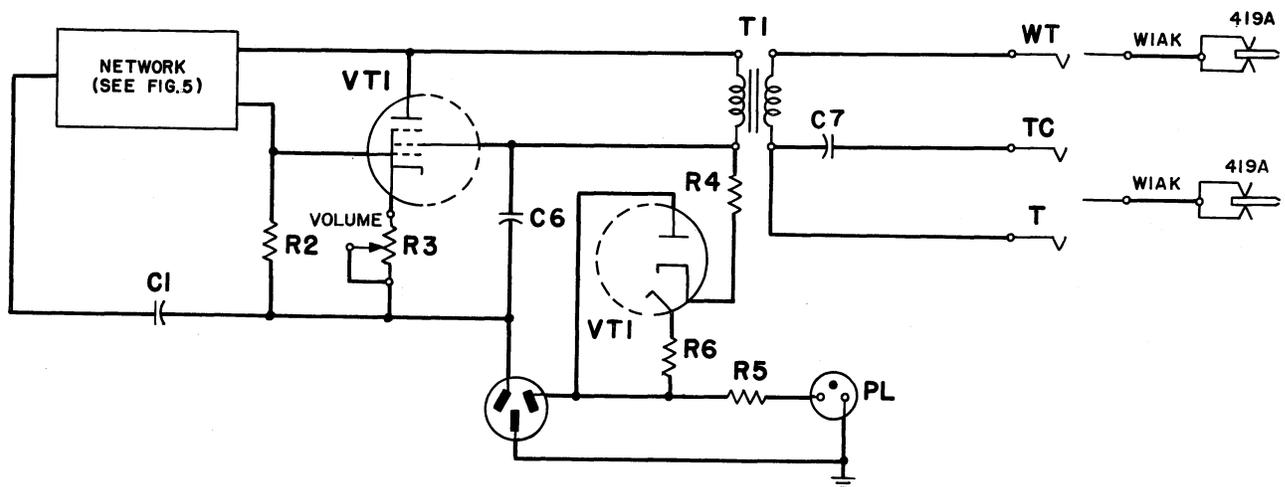
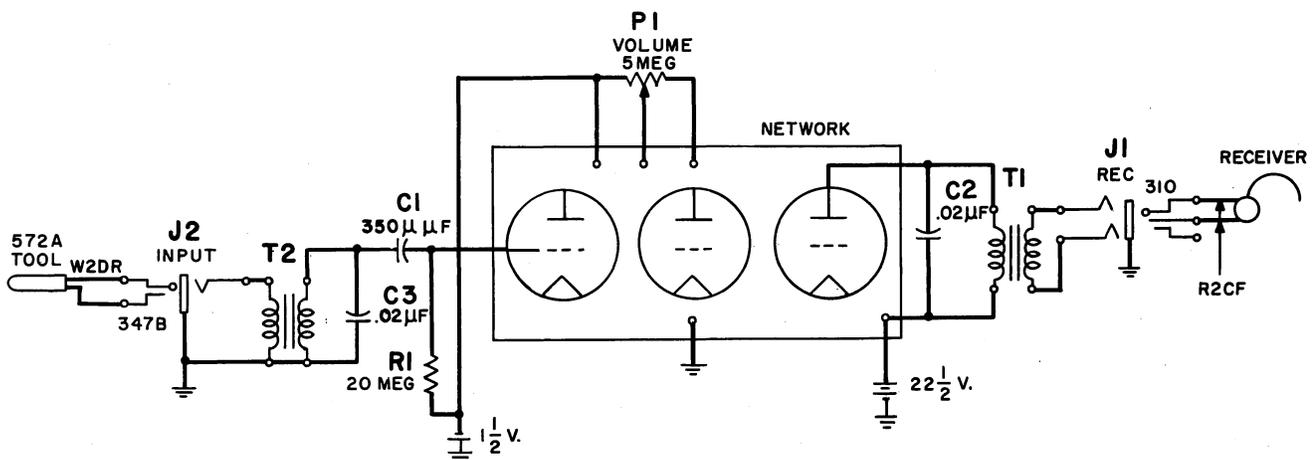

Fig. 7 - Oscillator Circuit Arranged for Locating Crosses
Fig. 8 – 147-Type Amplifier Circuit
3.09 Fig. 7 shows in simplified form the arrangement of the oscillator for locating a cross between leads or to ground or battery.
3.11 Fig. 8 shows in simplified form the arrangement of the 147-type amplifier with the receiver connected to the REC jack and the 572A tool connected to the INPUT jack. With the 572A tool held near one of the crossed wires, the 500-cycle tone can be heard in the receiver and may be adjusted by means of the VOL potentiometer. The tone can be followed along the lead and should disappear when the tool passes beyond the cross. By inspecting the wiring and apparatus near the point where the tone disappears, the tester should be able to locate the trouble.
3.12 The oscillator circuit arranged as shown in Fig. 7 and the amplifier arranged as shown in Fig. 8 can be used in the same manner as a buzzer by wrapping approximately three turns of either test lead (connected to the WT jack and the T or TC jack) around the 572A tool. The test leads can then be applied to a circuit under test the same as for a buzzer. If tone is heard in the headset connected to the amplifier, the circuit is continuous.